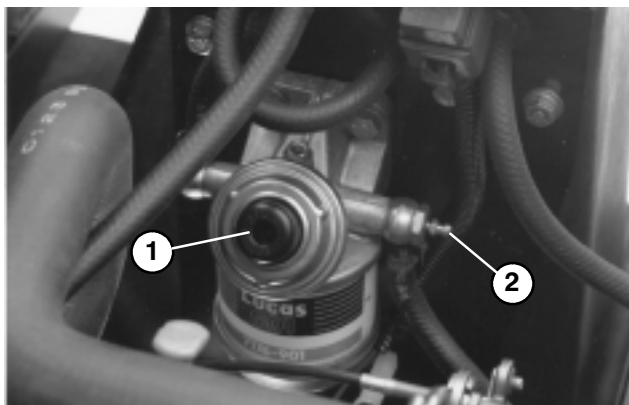

Figure 16
PRIMING FUEL SYSTEM (Fig. 16 & 17)
3. Loosen fuel filter / water separator bleed screw (Fig. 16) a few turns. Pump priming plunger until a steady stream of fuel comes out of hole in bleed screw. When fuel stops foaming, tighten the bleed screw during the downstroke of the priming plunger. Wipe up any spilled fuel.